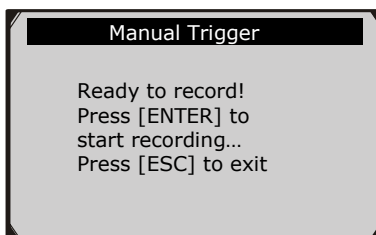

Figure 5.24
- If **Manual Trigger** is selected the following screen shows: (Figure 5.24)